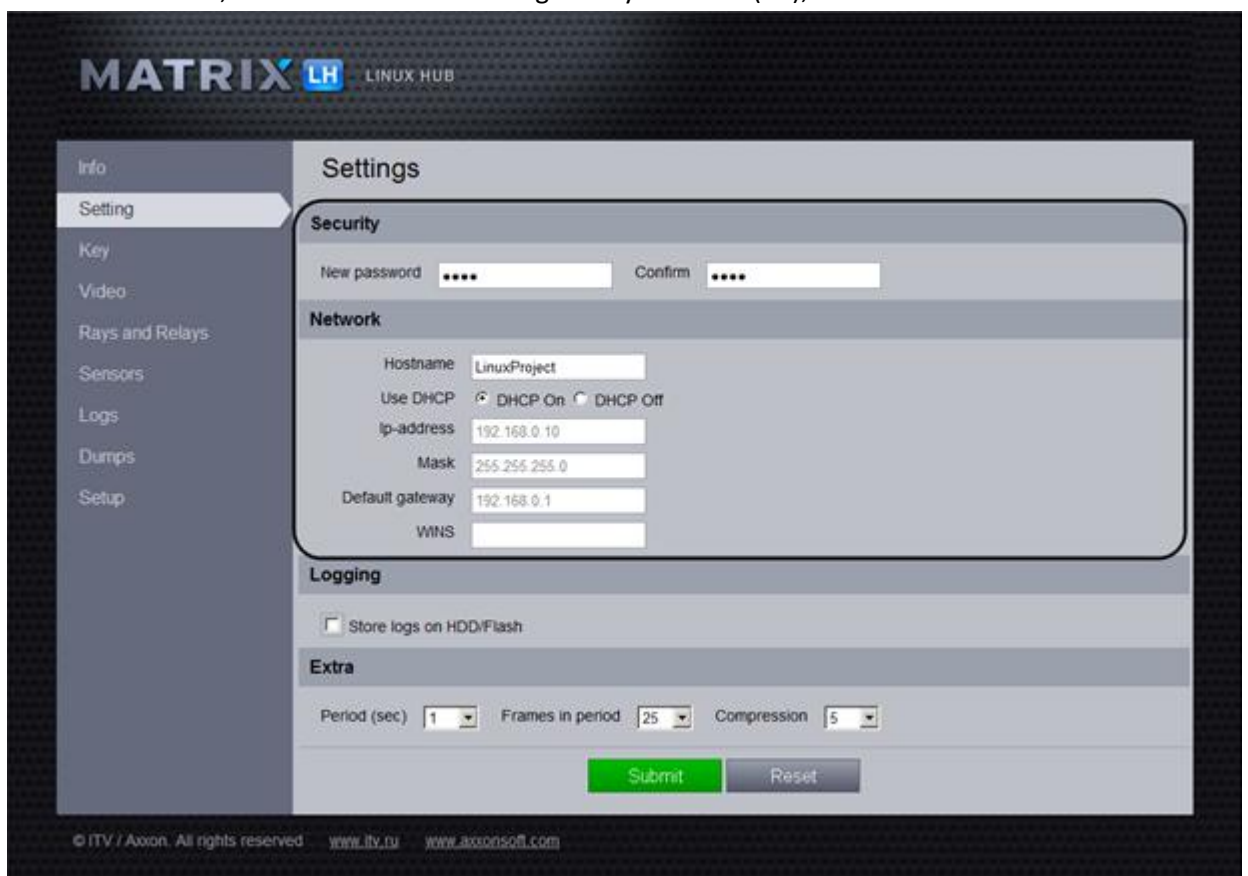

Figure 7.3-5 Network parameters configuration (Setting tab)
The **Setting** tab allows configuring the network parameters of the LS (LH) (Figure 7.3-5):
1. The password for accessing the LS (LH) Web interface (the **Password** and **Confirmation** fields);
2. NetBIOS name of the LS (LH);
3. IP-address, subnet mask and default gateway of the LS (LH);